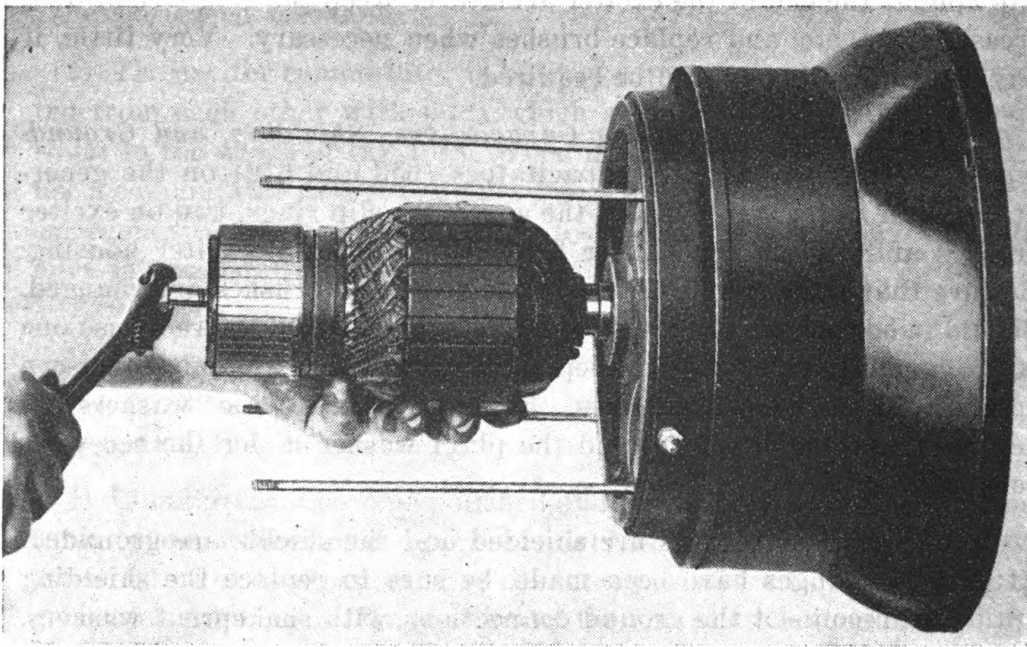

Figure 30.—Removing the Exciter Armature
h. Exciter Armature (Removal and Replacement).—The exciter armature core is machined to a light-pressure sliding fit on the generator-shaft extension. It is driven home and held tightly against the tapered driving fit on the shaft by bolt (643) in the commutator end of armature.
- (1) *To remove armature:*
- (c) Remove stator frame (660) by taking off the nuts and washers and pulling the frame off the four holding bolts (665).
- (d) Straighten the locking clip on washer (644) and remove the armature holding bolt (643).
- (f) Turn the bolt with a wrench, as shown in Fig. 30 to loosen the armature (1 turn is sufficient) so that it can be pulled off by hand.